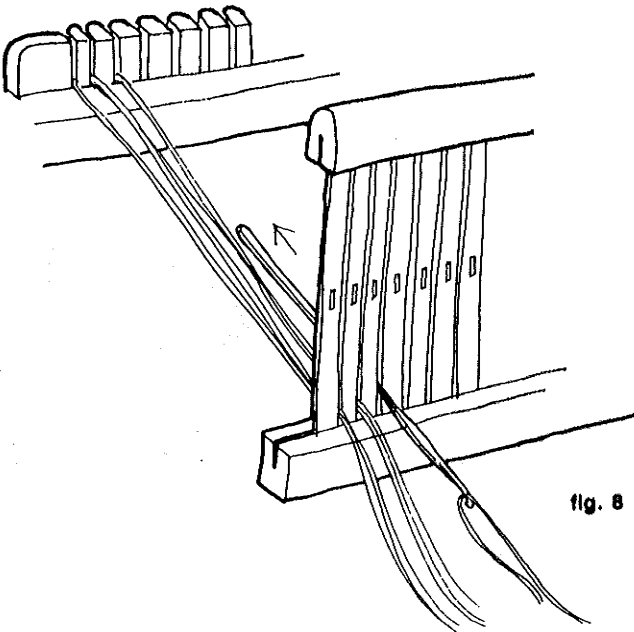

fig. 8
3. Pick up the top loop from the cross and insert it through the first slot in the heddle, and loop it over the first dent on the warp beam. (The slots in the 10 dent heddle correspond to the notches between the dents on each beam.) Take care to center the markings on each warp loop on each dent (fig. 8). Continue to place warp loops in every slot and around each dent for 10 e.p.i. fabrics, and in every other slot and around every other dent for 5 e.p.i. fabrics, until all loops have been placed.